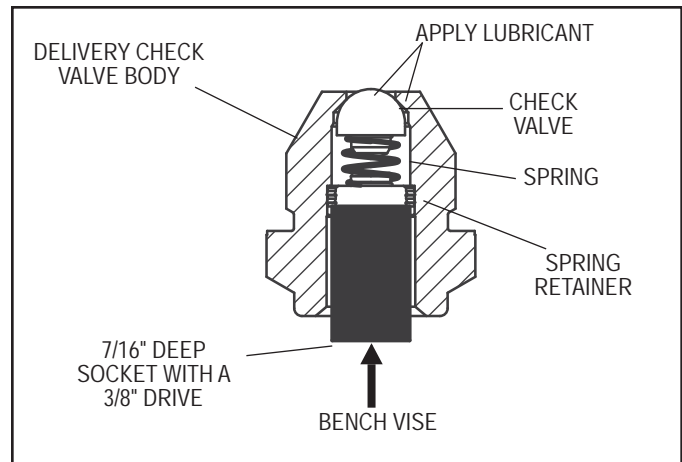

FIGURE 12 - VERTICAL DELIVERY CHECK VALVE
3. Place the retainer, spring and check valve sub-assembly into the check valve housing. Press the retainer using a 7/16" deep socket with a 3/8" drive, and a vise as shown in Figure 12.